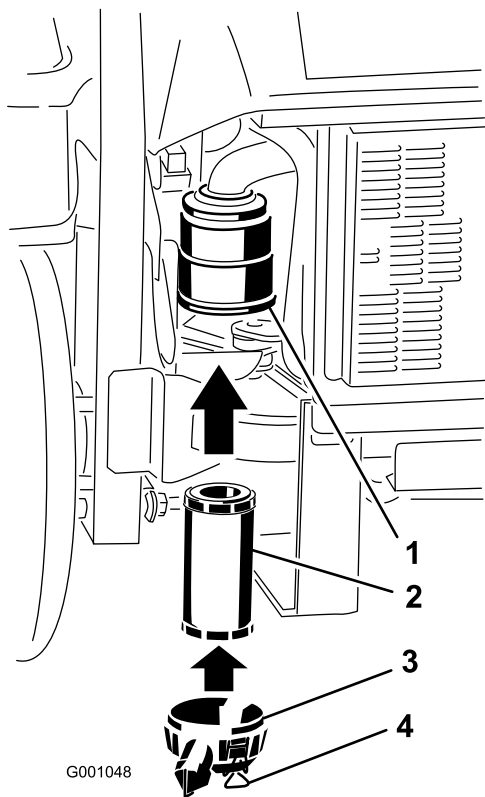

Figure 36
2. Carefully slide the filter into the filter body (Figure 36). Ensure that it is fully seated by pushing on the outer rim of the filter while installing it.
3. Install the air-cleaner cover and secure the latches (Figure 36).